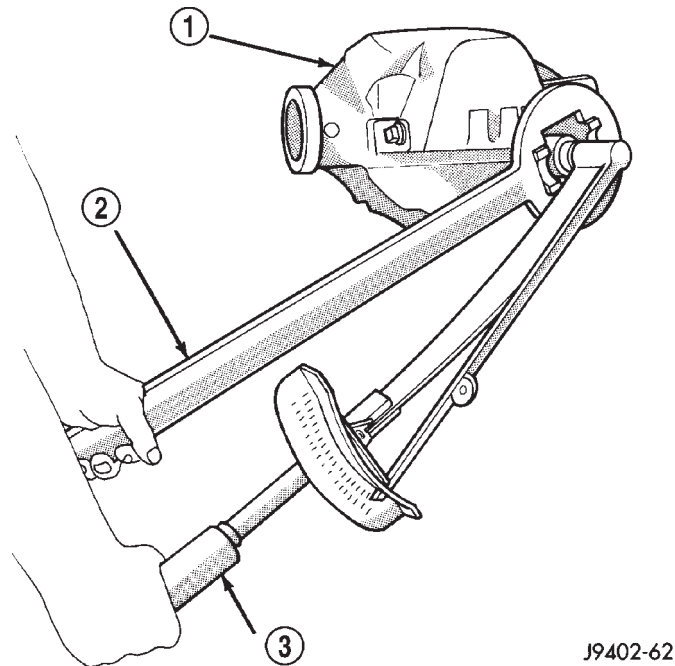

Fig. 15 Tightening Pinion Nut
(9) Hold pinion yoke with Yoke Holder 6719 and tighten shaft nut to 285 N·m (210 ft. lbs.) (Fig. 15). Rotate the pinion several revolutions to ensure the bearing rollers are seated.
(11) If the rotating torque is low, use Yoke Holder 6719 to hold the pinion yoke (Fig. 15) and tighten the pinion nut in 6.8 N·m (5 ft. lbs.) increments until proper rotating torque is achieved.